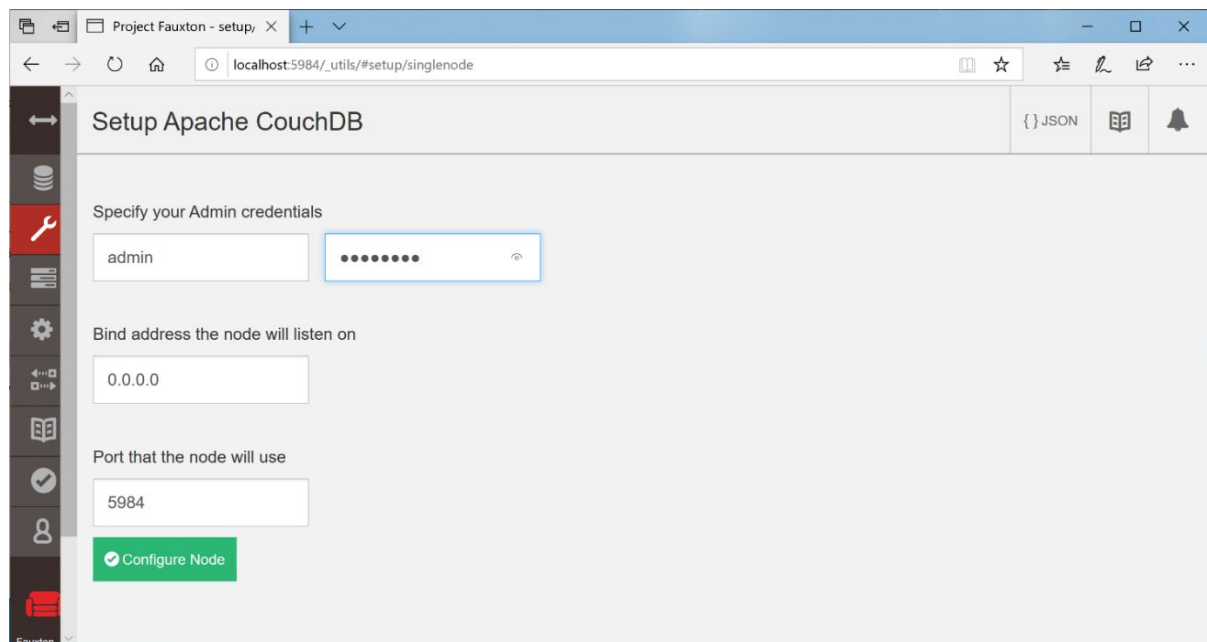

Figure 4-5 Configuring Single Node Continued
- f. Click the Configure a Single Node and enter your user and password, the same as you did when you started the Spectator Couch DB service and keep everything else as default. Then click Configure Node button (see Figure 4-5).